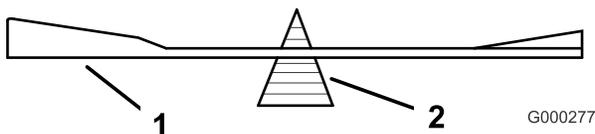
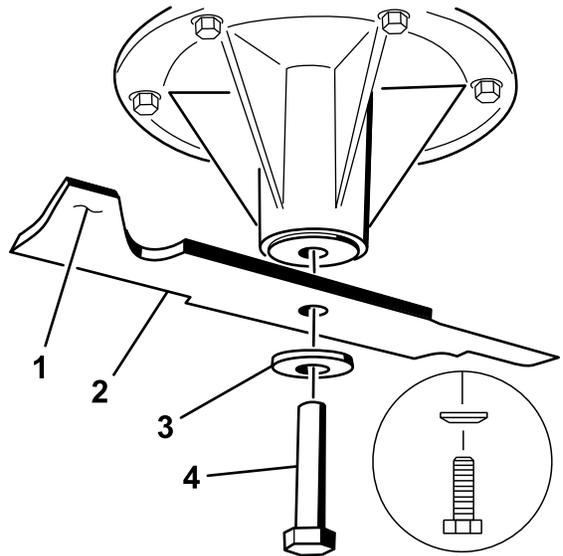

Figure 85
Figure 86
2. Remove the blade bolt, spring disk and blade from the spindle shaft (Figure 86).
2. Check the balance of the blade by putting it on a blade balancer (Figure 85). If the blade stays in a horizontal position, the blade is balanced and can be used. If the blade is not balanced, file some metal off the end of the sail area only (Figure 86). Repeat this procedure until the blade is balanced.
1. Install the blade onto the spindle shaft (Figure 86).
2. Install the curved washer and blade bolt. The curved washer cone must be installed toward the bolt head (Figure 86). Torque the blade bolt to 115-150 N-m (85-110 ft-lb).